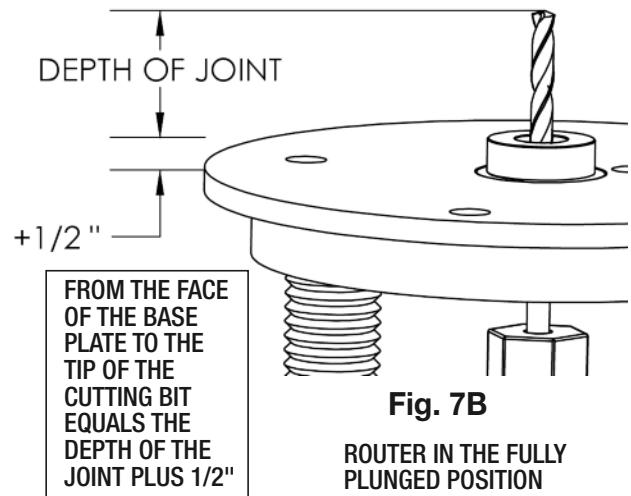

Fig. 7B
- Accordingly, add $1/2"$ to the desired depth of the mortise and tenon when setting the “plunge” depth of the router (Fig.7b).